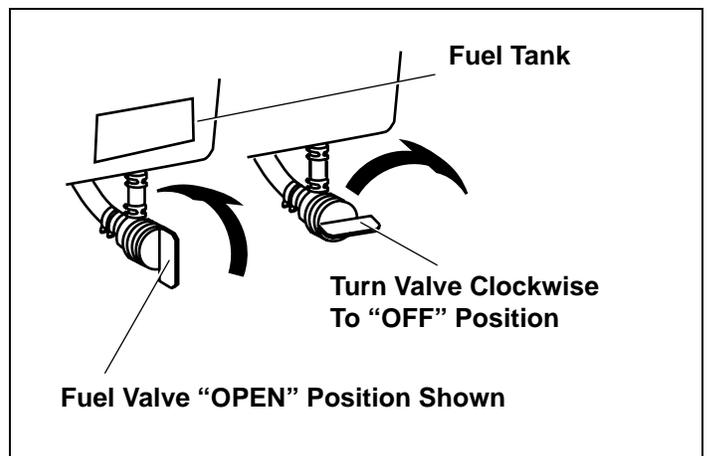

Figure 8. Fuel Valve Positions
4. Place optional fuel valve in "OPEN" position, if fuel valve is present and all switches are on. See Figure 8.